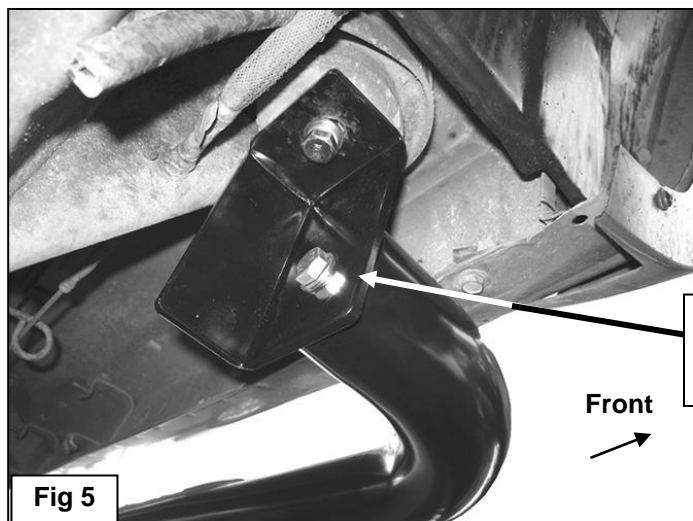

Fig 5
6. Next, select the driver Sidebar. Attach the Sidebar to the Mounting Brackets with the included (2) Larger 1/2" x 2" Hex Bolts, (2) 1/2" Lock Washers and (2) 1/2" Flat Washers, **(Figure 5 & 6)**. Do not tighten at this time.